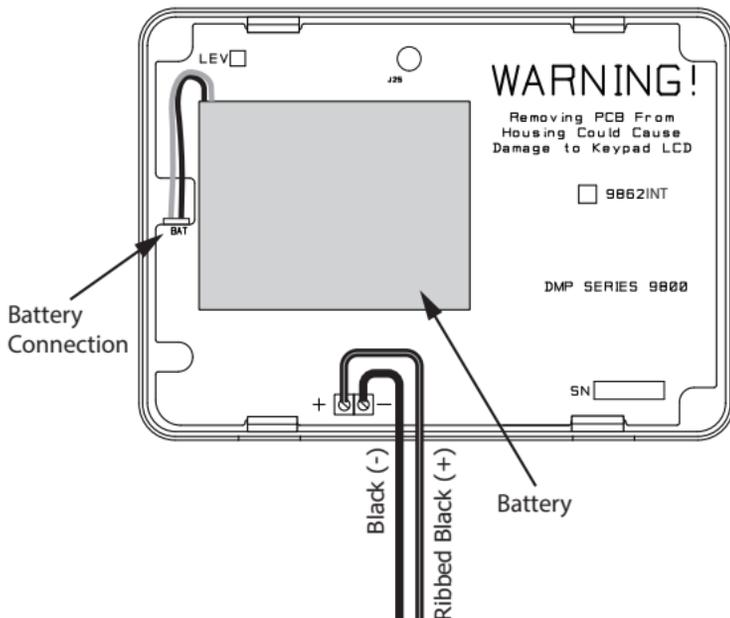

Figure 8: Battery Connection
3. Observe polarity and connect the battery lead connector to the keypad battery header. See Figure 8.